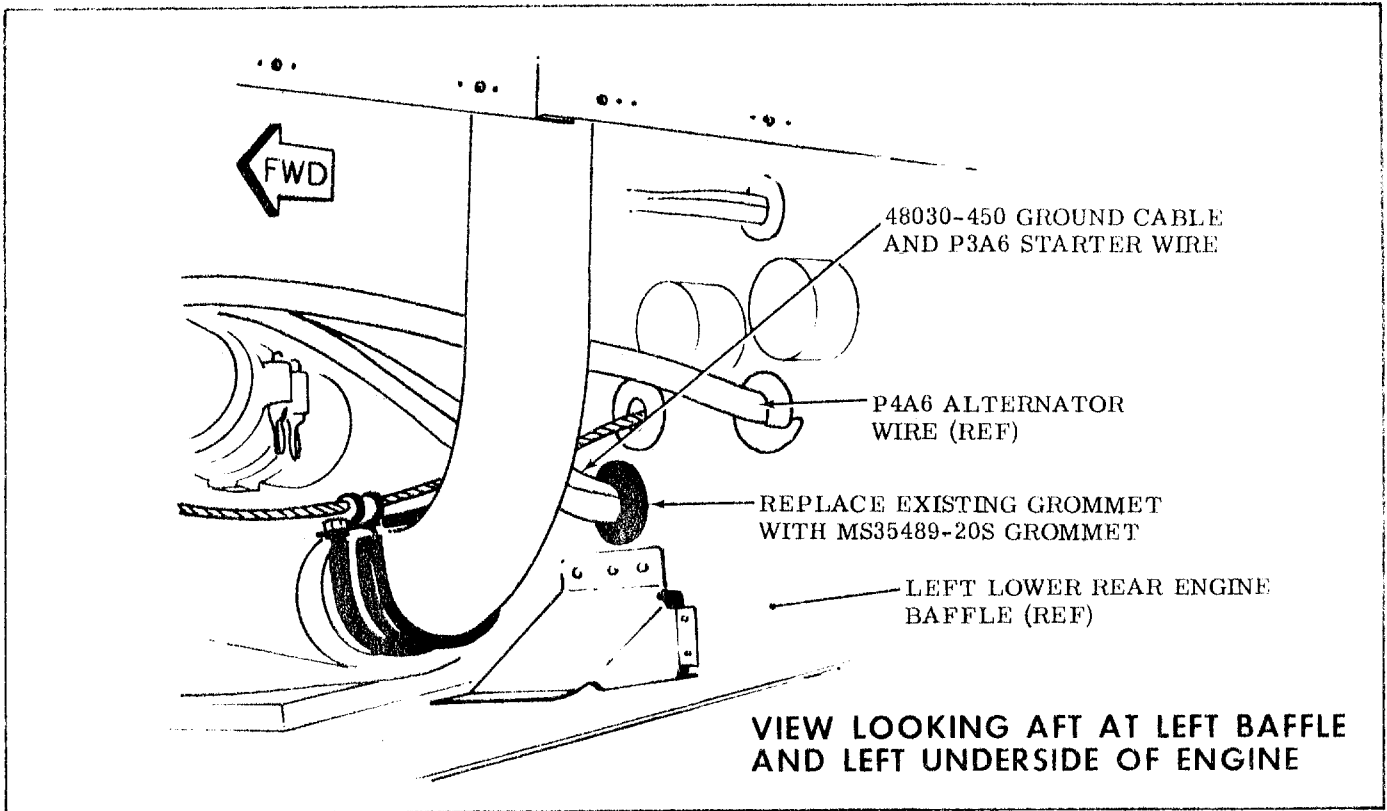

Figure 2.
7. Remove and discard existing grommet from left aft baffle assembly and install MS35489-20S grommet (see Figure 2.).